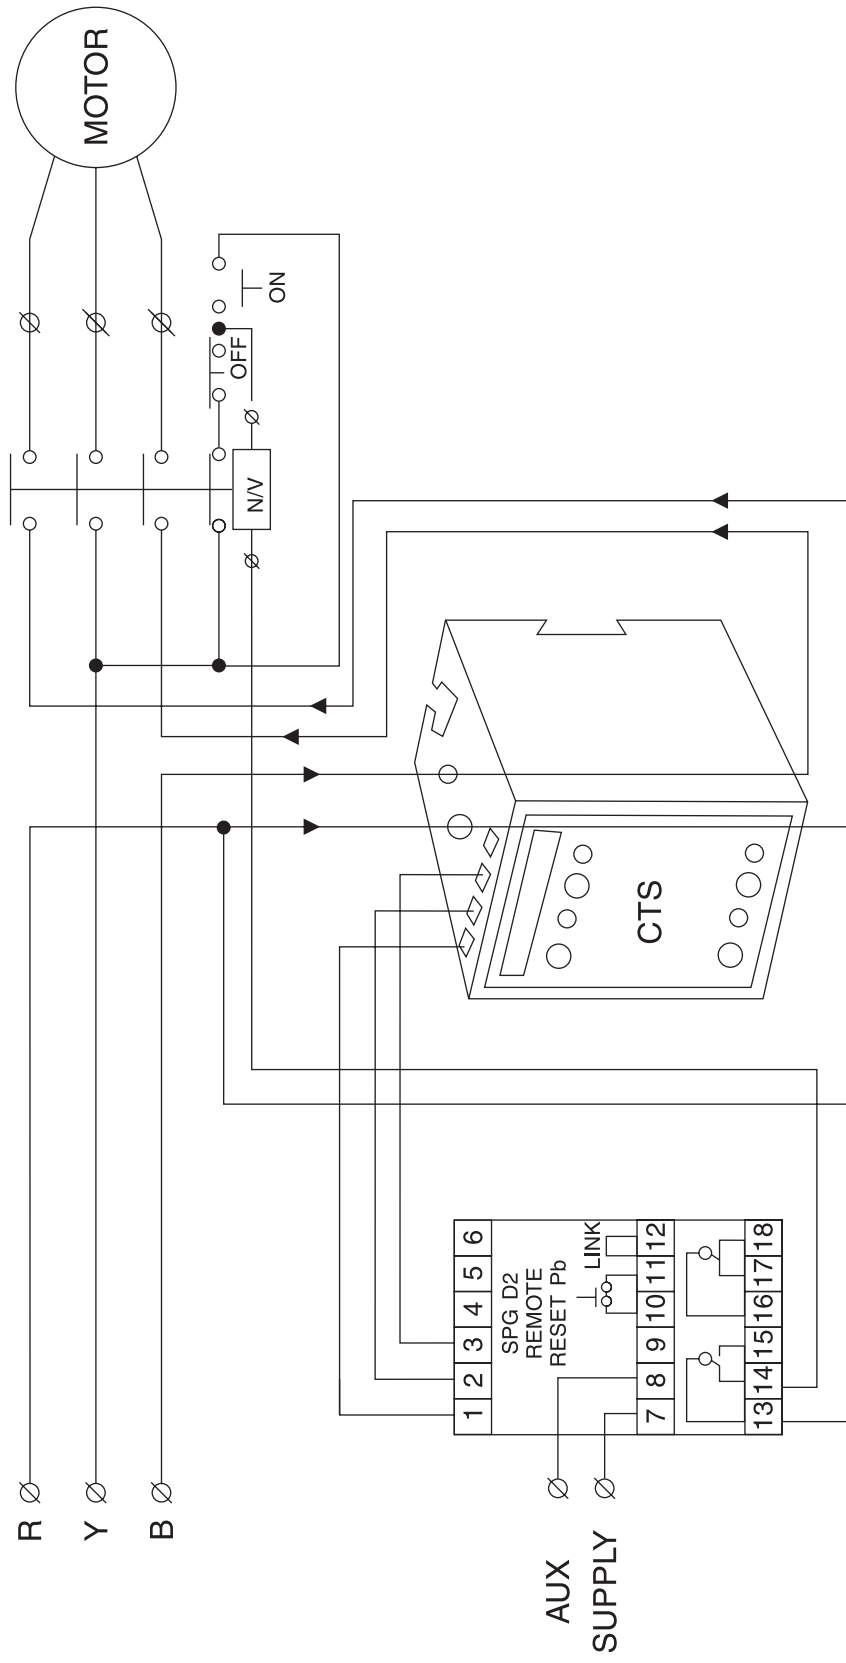

FIG. 12.1: AUTOMATION OF TUBEWELL
*A line diagram of installing the devices in the system is given at Fig. 12.1*